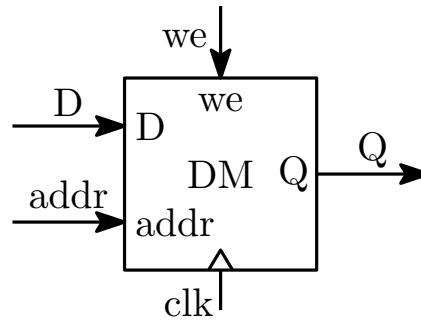

Figure 5: DM schematic symbol.
As its name suggests, a Data Memory (DM) stores temporary data used by the user program. DM is basically a Random Access Memory (RAM) whose values are read/written according to the user program. Figure 5 shows the schematic symbol of an DM.